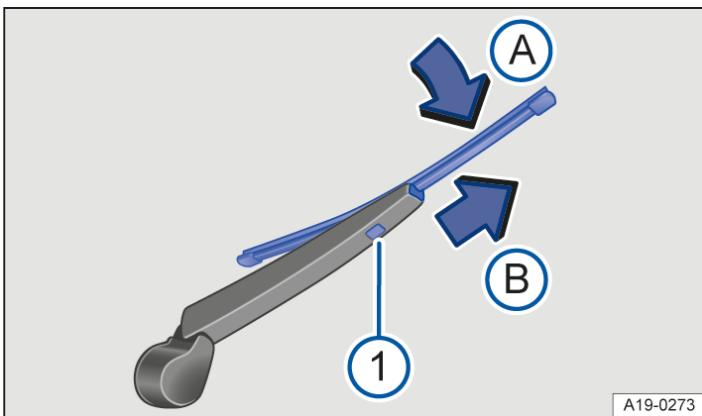

Fig. 2 Changing the wiper blade for the rear window.
- Press and hold the release button → *Fig. 2* (1).
- Tilt the wiper blade in the direction of the wiper arm → *Fig. 2* (arrow A) and pull it off in the direction of the arrow B at the same time. You may need to use some force to do this.
- Insert a new wiper blade with the same length and design onto the wiper arm against the direction of the arrow. Push it on until it engages → *Fig. 2* (arrow B). The wiper blade must be in the folded back position → *Fig. 2* (arrow A).